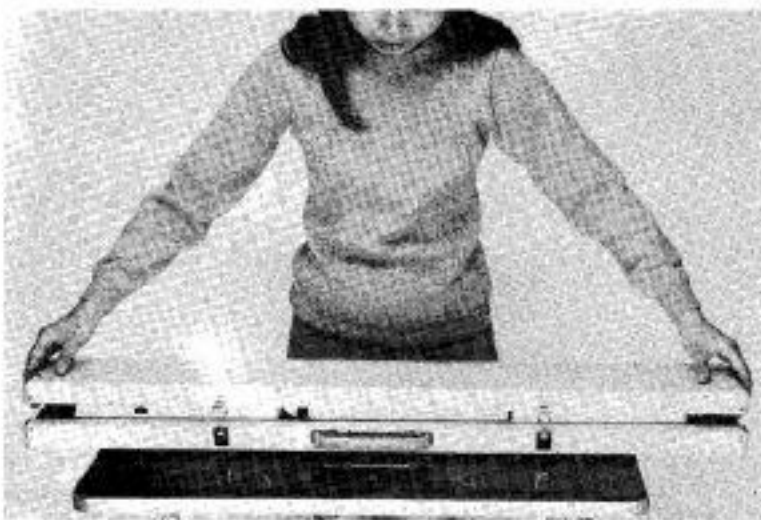

Fig. 6
2. Remove Cover lift and pull forward. (Fig. 6)